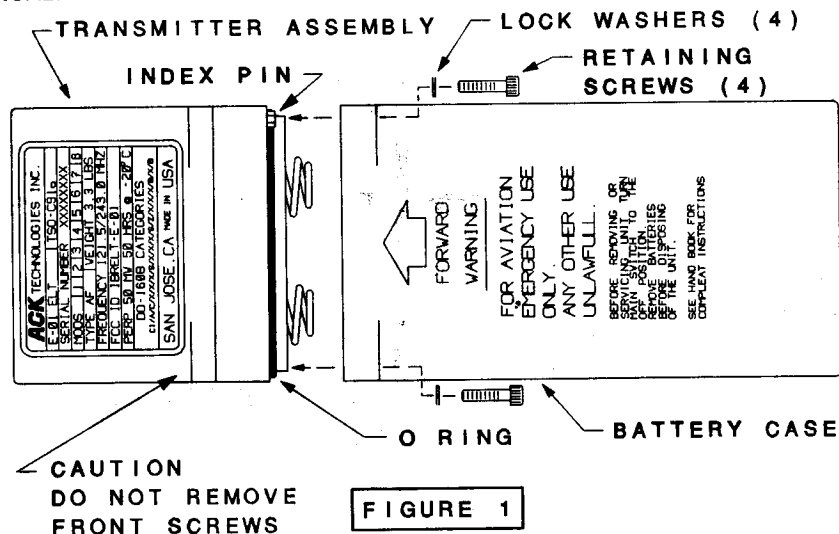

FIGURE 1
1. USING THE 3/32" HEX DRIVER SUPPLIED WITH THE ELT, REMOVE THE 4 RETAINING SCREWS AND SPLIT LOCK WASHERS WHICH ATTACH THE BATTERY CASE TO THE ELT TRANSMITTER ASSEMBLY (FIGURE 1). **CAUTION DO NOT REMOVE THE FRONT SCREWS FROM THE TRANSMITTER ASSEMBLY.** IF THE ELT CONTAINS BATTERIES LOOSEN THE SCREWS EVENLY A FEW TURNS AT A TIME UNTIL THE BATTERY CONTACT SPRING PRESSURE IS RELIEVED.